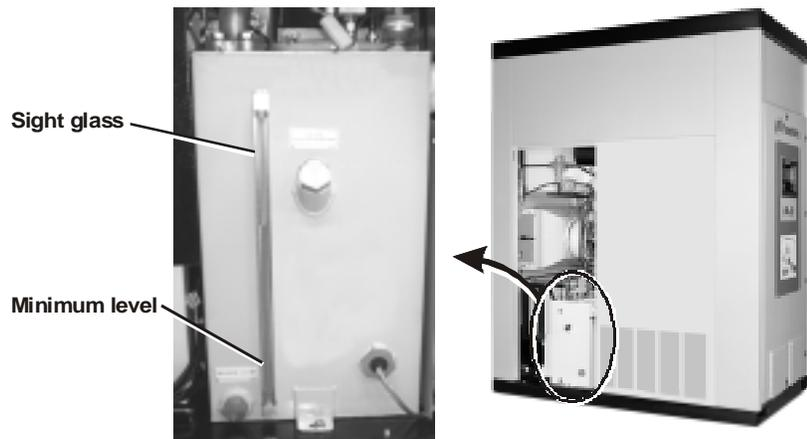

Figure 41. Turbine coolant sight glass
- 2 Observe the turbine coolant tank sight glass (Figure 41) and record the coolant level in the maintenance log. (See “Keeping a Maintenance Log” on page 79.)